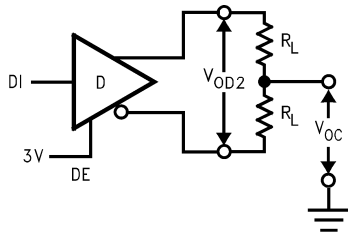

Figure 2. Driver V_{OD2} and V_{OC}
| V _{OD2} | Differential Output Voltage (Termination Load) | R _L = 50Ω | (422) | Figure 2 | 2.0 | 2.8 | V | |
| V _{OC} | Driver Common Mode Output Voltage | R _L = 27Ω | (485) | Figure 2 | 0 | | 3.0 | V |